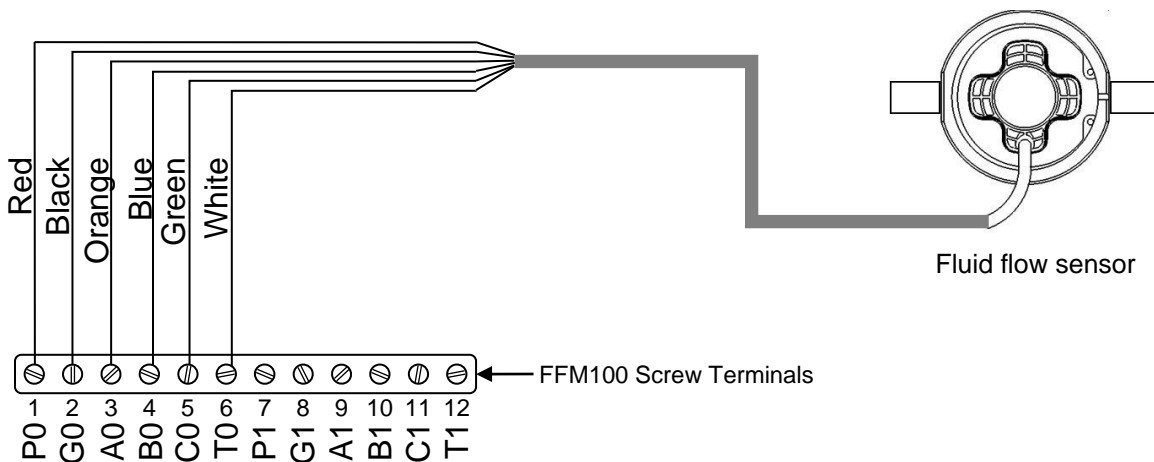

Figure 2 – Fuel Flow Sensor Connection Diagram
9. Connect the six wires of the pressure transducer to a free pressure monitoring channel. Please refer to Figure 2 below for details.